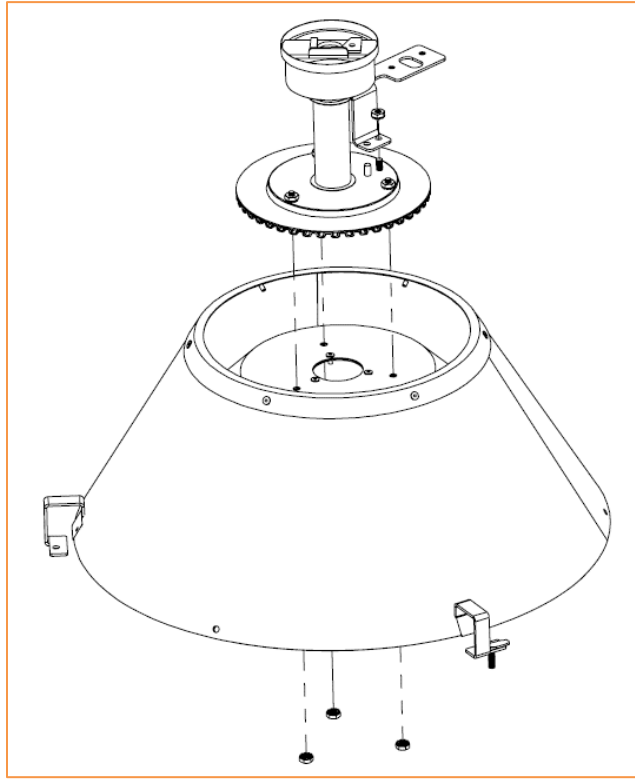

Figure 6
2. Fasten the burner assembly to the cone assembly using three (3) #10-24 hex locknuts and attach the igniter bracket to the burner assembly using a #10-24 hex locknut, as shown in Fig. 6.